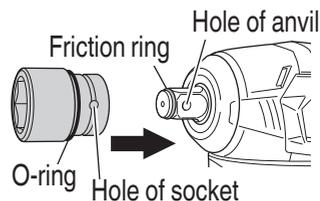

Fig. 6
- (1) Slide the O-ring out of the groove, then align the hole of the socket with the hole of the anvil and insert the anvil into the socket. (Fig. 6)